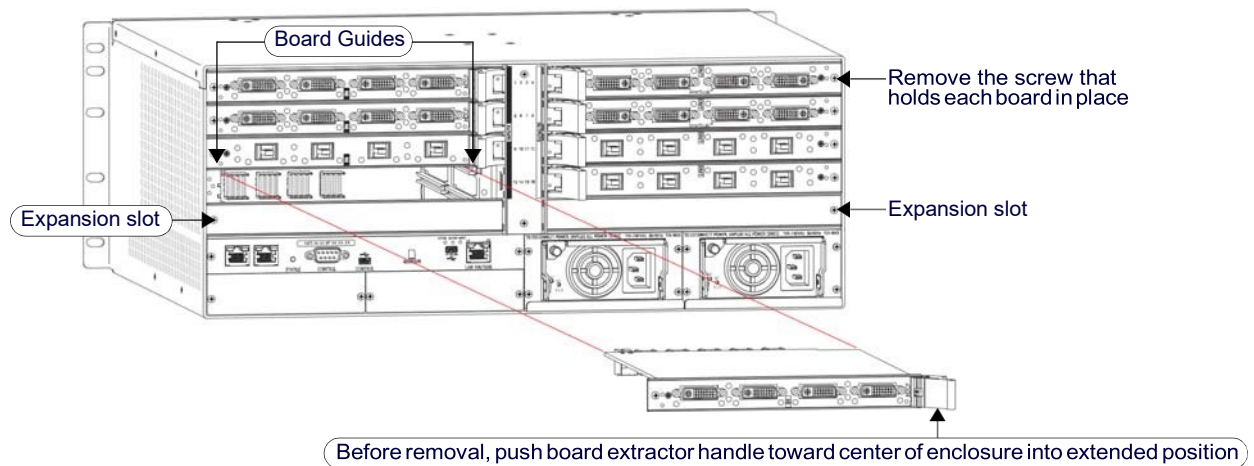
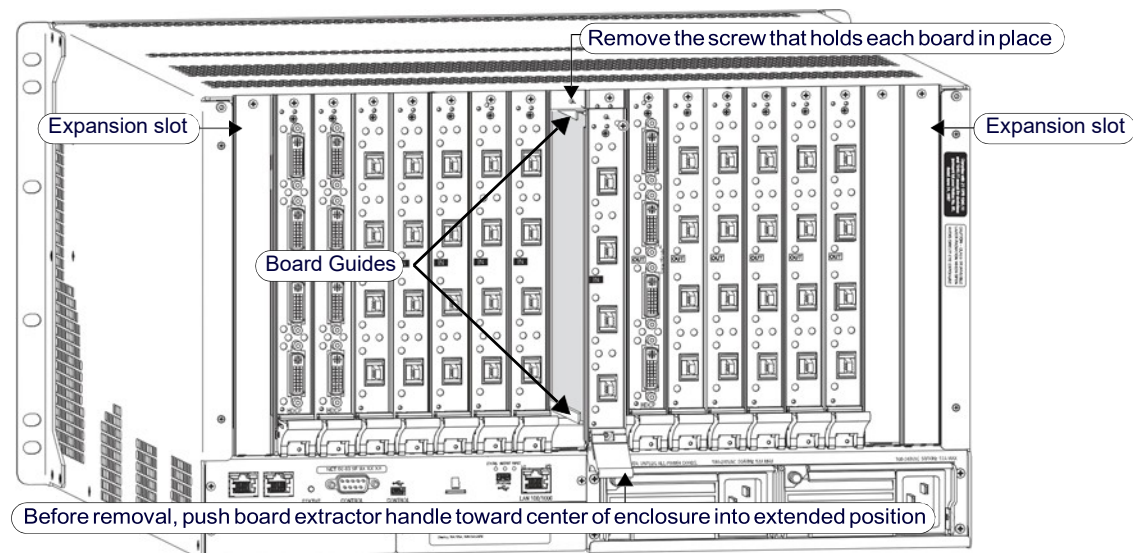

FIG. 2 Horizontal boards - Remove screw, push board extractor handle right (input) or left (output), pull board straight out
FIG. 3 Vertical boards - Remove screw, push board extractor handle down, and then pull board straight out
6. **Remove blank board plate** – Remove the screw that holds the board plate in place (for the Enova DGX 8/16/64 and Enova DGX 800/1600/6400, see FIG. 2; for the Enova DGX 32/3200, see FIG. 3).
Remove current board – Remove the pan head screw that holds the board in place (for the Enova DGX 8/16/64 and Enova DGX 800/1600/6400, see FIG. 2; for the Enova DGX 32/3200, see FIG. 3).
7. **Audio Switching Boards only** – *These boards can only be installed in expansion board slots (FIG. 2 and FIG. 3).* For the Enova DGX 6400, information on board slot restrictions are provided in the Caution on page 2.
8. **Audio Insert/Extract Board(s) only** – For information on setting the DIP switches, see page 6 (this is the only way to configure the insert/ extract functionality). Flip the DIP switch for each connector that needs its setting changed. We recommend writing down the setting for each connector to make verifying correct audio switching behavior easier in Step 18. *These boards can only be installed in expansion board slots (FIG. 2 and FIG. 3).*
9. **Install horizontal boards** – With the board's extractor handle in the extended (unlocked) position, line up the board's edges on the board guides that are along the left and right of the board slot (FIG. 2). Note that input boards have board guides at the top of the slot and board guides for the output boards are at the bottom of the slot due to their reversed orientation in the enclosure.
Install vertical boards – With the board's extractor handle in the extended (unlocked) position, line up the board's edges on the board guides that are along the top and bottom of the board slot (FIG. 3).